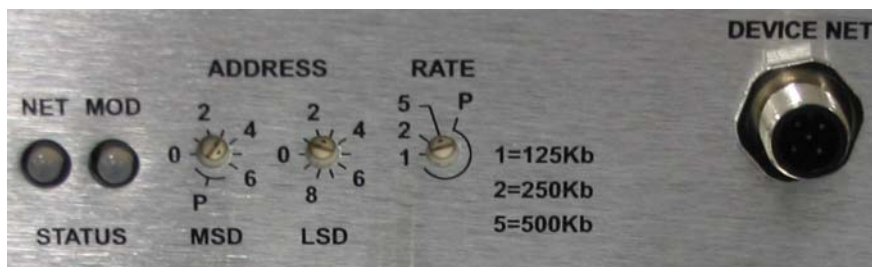

Figure 1. Rear Panel Indicators, Switches, and Connector
2. If the Generator has switches on the rear panel as shown in Figure 1 above, set the desired address (00 - 63) and data rate (125, 250, or 500 kbit/sec). In Figure 1, the address is set to 63 and the data rate is set to 500 kbit/sec.